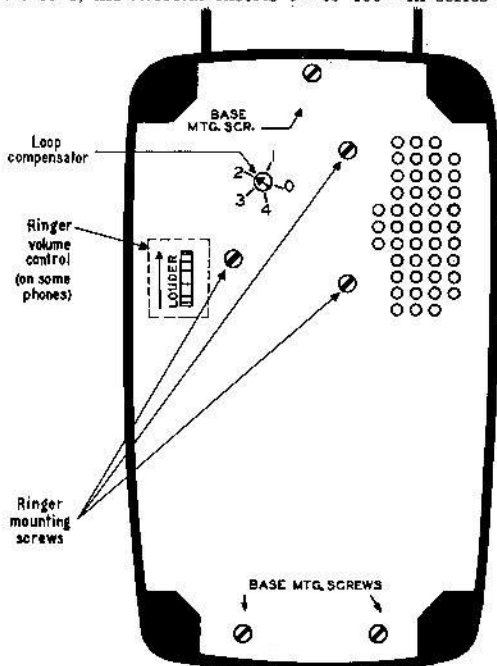

Figure 22.
Call the central office for a ringing test. If the telephone has a straight-line ringer with a loudness control (figure 22), adjust the control to suit the subscriber.
The "loop compensator" is a *rheostat-and-switch* accessible from the bottom of the telephone (figure 22). It can be set with the tip of a small screwdriver. As the arrow is turned counterclockwise from 0 to 4, the *rheostat* inserts 0Ω to 400Ω in series with the loop.
16.1 Loudness adjustment. When so ordered, straight-line type 80 telephones have a ringer volume control (figure 22). The installer either requests the test board to ring back or dials a reverting-call switch, and, while the telephone rings, adjusts the control for loudness to suit the subscriber.
18.1 Loosen the three base-mounting screws shown in figure 22. Do *not* loosen any other screws on baseplate.